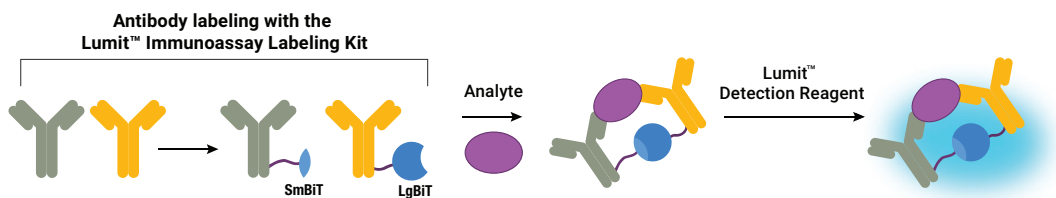

Figure 1. Schematic of Lumit™ Immunoassay.
The Lumit™ Immunoassay^(a-e) is based on NanoLuc® Binary Technology (NanoBiT). NanoBiT® is a structural complementation system designed for biomolecular interaction studies (1). The NanoBiT® system is composed of two subunits, Large BiT (LgBiT; 18kDa) and Small BiT (SmBiT; 11 amino acid peptide), that have been optimized for stability and minimal self-association due to weak affinity (190µM). In Lumit™ Immunoassays, antibodies are labeled with SmBiT and LgBiT subunits. Upon binding of the labeled antibodies to an analyte, the subunits come into close proximity, reassemble into a functional luciferase enzyme and generate a luminescent signal in the presence of substrate (Figure 1). Other immunoassay formats, including competition and indirect immunoassays, can also be developed using this technology (2).